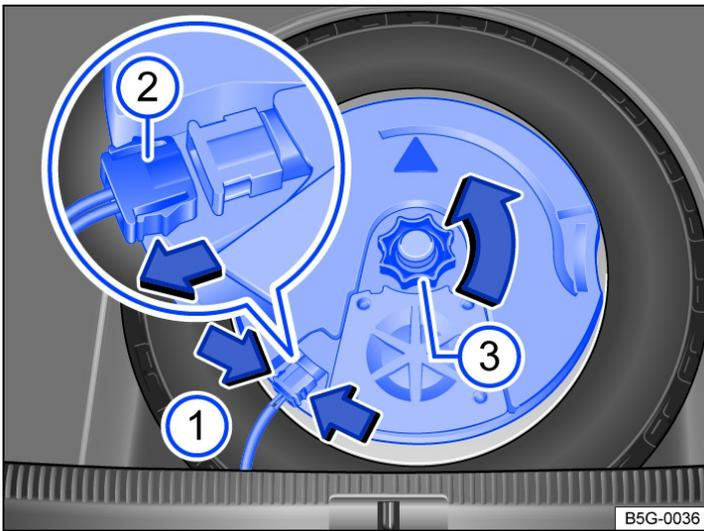

Fig. 1 In the luggage compartment: removing subwoofer (type 1).
- To release the connector → Fig. 1 (2), press the lugs together → Fig. 1 (arrows (1)).
- Pull off the connector → Fig. 1 (2) as shown by the arrow, and place the disconnected electrical cable to one side.